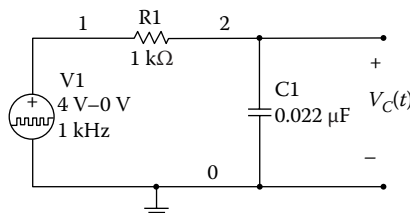

FIGURE 3.2
For the circuit shown in Figure 3.2, the input square wave has a frequency of 1 kHz, the peak-to-peak value of the square wave is 0 to 4 V with an offset voltage of 2 V. Use the Analog Discovery board to obtain the output signal. (1) Measure the time constant of the circuit. (2) Compare the measured time constant with the theoretically calculated value. (3) If the frequency of square wave is increased to 10 kHz without changing the element values, what will be the output voltage?
Use a breadboard to build the circuit shown in Figure 3.2. Connect AWG1 (yellow wire) to node 1 of the circuit. Also, connect the scope channel 1